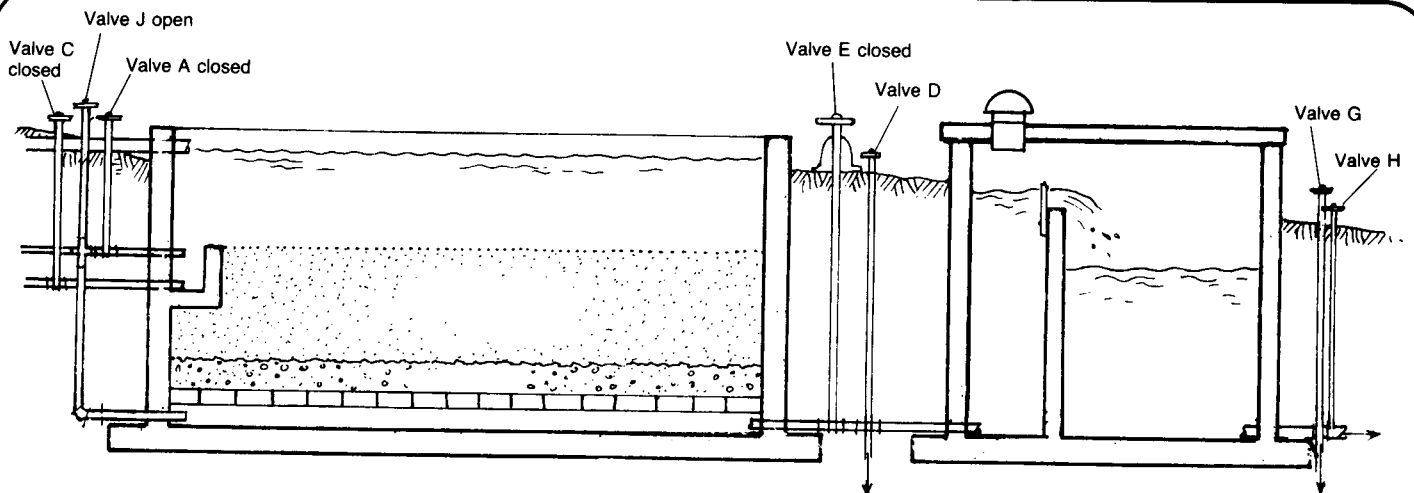

Figure 1. Filling the Slow Sand Filter
- Close all outlet valves in the filter system and add potable water to the filter from the bottom as shown in Figure 1. The water that enters from the bottom forces air bubbles out of the filter bed and ensures that all grains of sand are in contact with water. Continue adding water until the water level is approximately 0.1m above the sand bed.